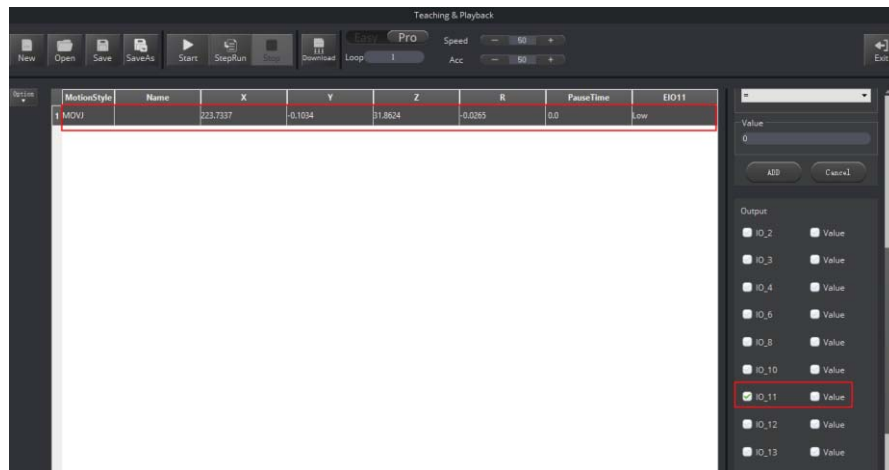

Figure 5.195 Saved point
Step 2 Select **IO_11** on the Output pane, and click **+Point**, as shown in Figure 5.195.